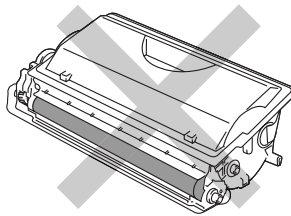

Figure 5-13
- Do not touch the shaded parts shown in Figure 5-13.